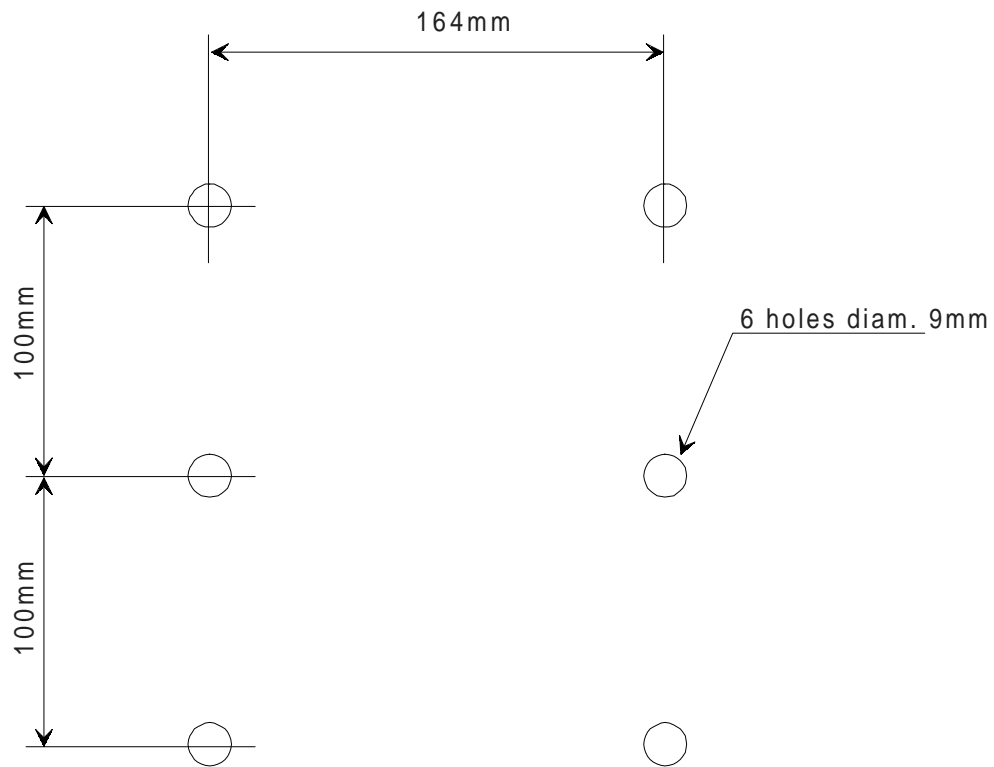

Fig. 2.3. Holes for wall mounting
- Make six holes in the wall corresponding to the holes located on bracket (Fig. 2.3.).